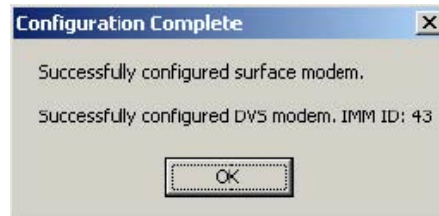

Figure 5. Configuration Complete Message Box
1. Press the **Configure Modems** button to start the configuration process. The dialog will update with a status bar and information on the configuration steps being run. The configuration process will take a few minutes to complete. Once the process is completed, a message box will appear letting you know that the selected configuration(s) are completed (See Figure 5 below).